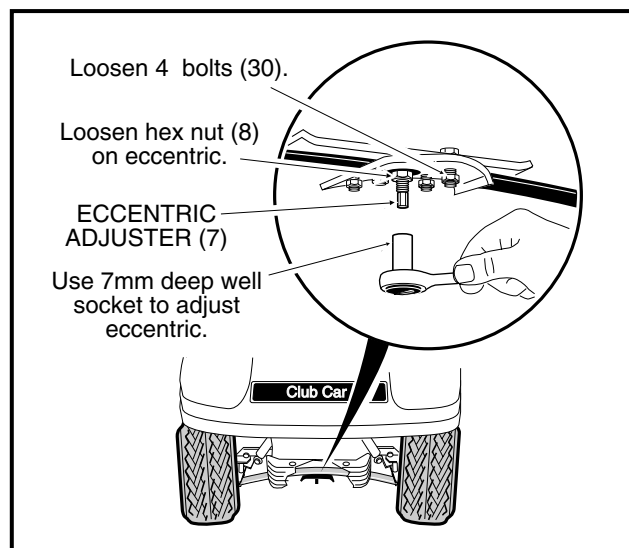

Figure 7-17 Adjust Camber
2. Loosen, but do not remove, the four bolts (30) that secure the leaf spring (6) to the bottom spring plate (29) (**Figure 7-21, Page 7-19**). See also **Figure 7-17, Page 7-15**.
- Loosen, but do not remove, the hex nut (8) on the adjustment eccentric (7) (**Figure 7-17, Page 7-15**) in the center of the spring. **See also Figure 7-21, Page 7-19.**
- Use a 7 mm deep well socket to rotate the eccentric (**Figure 7-17, Page 7-15**).
- Tighten the hex nut (8) on the adjustment eccentric (7) to 10 ft-lb (13.5 N·m) (**Figure 7-21, Page 7-19**) **See also Figure 7-17, Page 7-15.**